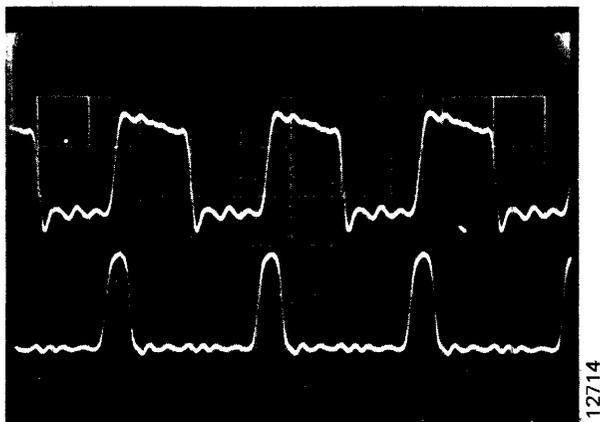

Figure 3-20. Reference One-Shot Adjustment Waveform
9. Move the heads forward into the outer guard band. The Channel 1 waveform, locked to PLO, should not shift and should be locked to 155 ± 7 nanoseconds. Repeat steps 7 and 8 to meet this requirement. The Channel 2 waveform should also be locked and stable, although it may be off one-half cycle in phase from the position shown in Figure 3-20.